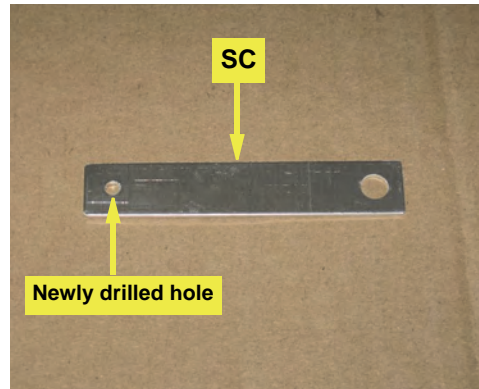

Figure 1a: Newly drilled sensor bracket
- a. Drill a 3/16" hole in the opposite end from the already drilled hole in the aluminum bracket **SC** (Figure 1a).